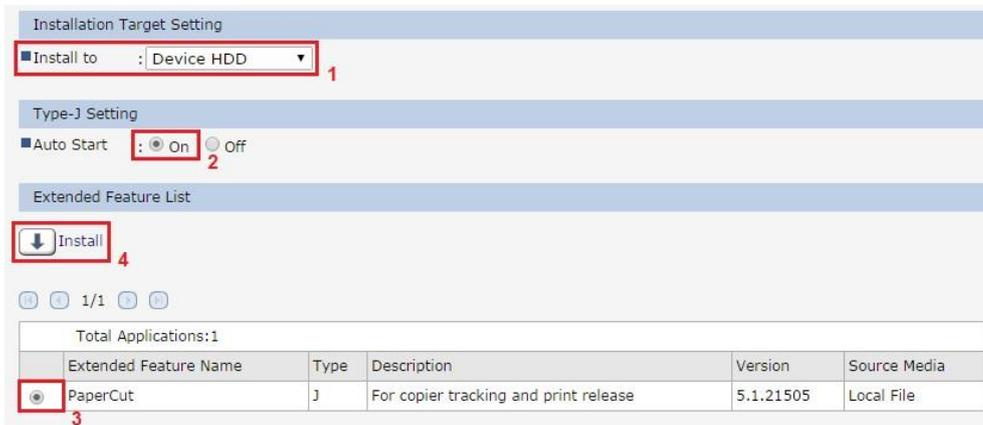

Figure 9: Installing the application.
4. Change the install location to **Device HDD**, set **Auto Start** to **On** (but don't click **Install**), then select **PaperCut** in the table of applications (see Figure 9).